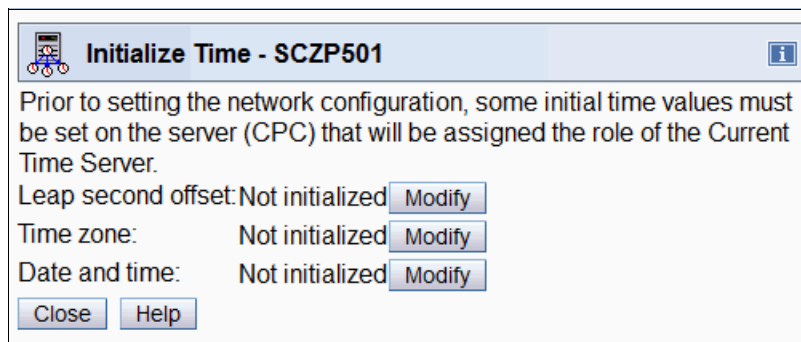

Figure 9-39 System (Sysplex) Time: Initialize Time
2. The Initialize Time panel opens (Figure 9-39).